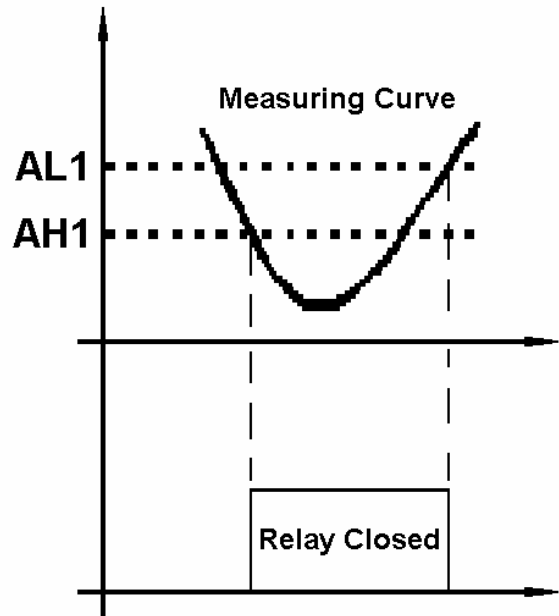

Figure 5
- c) Set $AH1 < AL1$: Normally used for lower limit alarm trigger. See Figure 5.